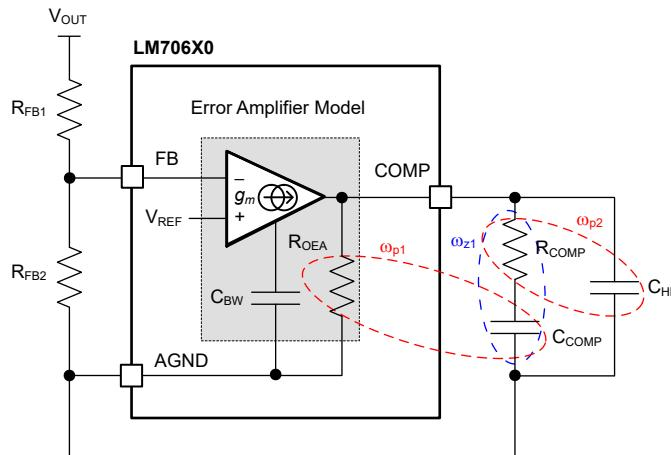

Figure 7-3. Error Amplifier and Compensation Network
A Type-II compensator using a transconductance error amplifier (EA) is shown in Figure 7-3. The dominant pole of the EA open-loop gain is set by the EA output resistance, R_{O-EA} , and effective bandwidth-limiting capacitance, C_{BW} as shown by Equation 23.
The EA compensation components create a pole close to the origin, a zero, and a high-frequency pole. Typically, $R_{COMP} \ll R_{O-EA}$ and $C_{COMP} \gg C_{BW}$ and C_{HF} , so the approximations are valid. Figure 7-3 circles the poles in red and the zero in blue.